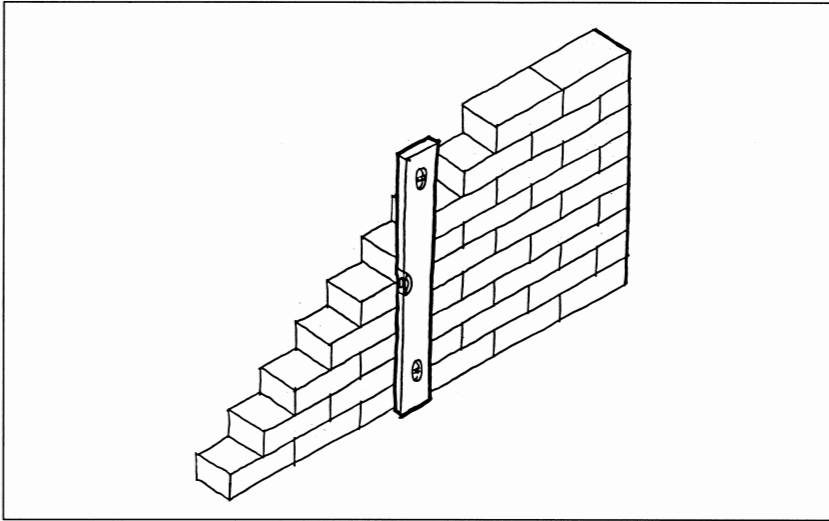

Figure 8.12 Maintaining vertical perpend.
6. The vertical joints in the alternate courses should fall in a plumb (vertical) line from the top of the wall to its base, whether on face or back of wall. (See figure 8.12)